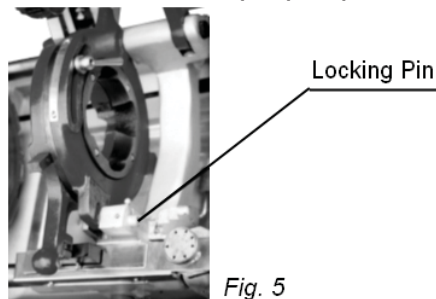

Fig. 5
4. Pull up the cutting knife rack and beveling rack to make room. Then push down the screwing die head, make it touch the copying block (see Fig. 5), and lock it tight with locking pin. Push the button to start the machine after the die head is fixed in its proper position.